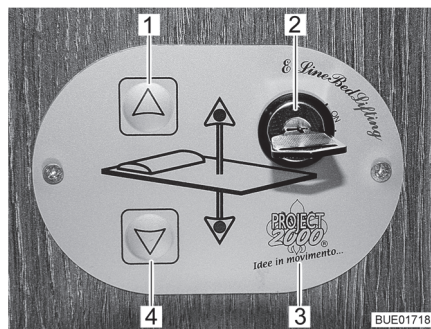

Fig. 96 Control unit
The pull-down bed is raised or lowered using the buttons (Fig. 96,1 and 4) on the control unit (Fig. 96,3). The control unit is protected against unauthorized use with the key switch (Fig. 96,2).
- Turn the key in the key switch (Fig. 96,2) by 90° in a clockwise direction to position "On". The control unit (Fig. 96,3) is activated.
- Press the arrow key (Fig. 96,4) and keep it pressed until the pull-down bed has moved down into the desired position.
- Press the arrow key (Fig. 96,1) and keep it pressed until the pull-down bed has moved down into the final upper position.